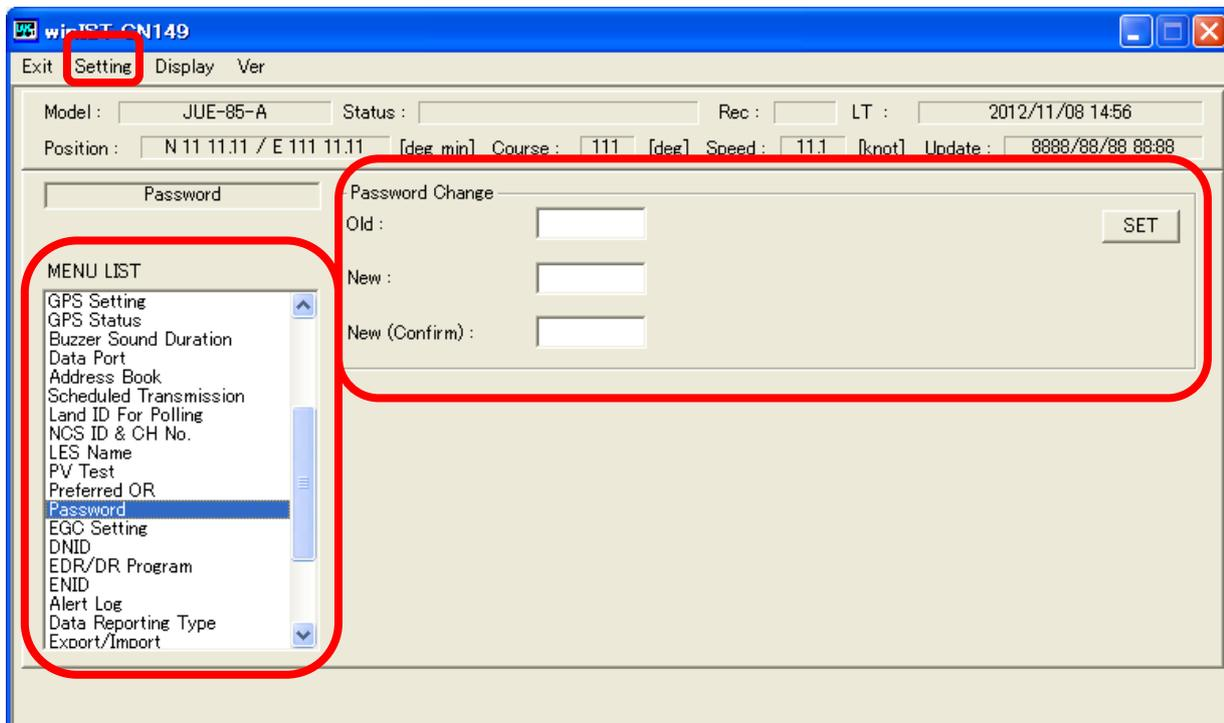

Fig. 4-24a [Password] screen
2. Operation except [Exit], [Display], and/or [Ver] is not possible while winIST is communicating with INMARSAT terminal (the function in the frame of **Fig. 4-24a [SSAS Password] screen** cannot be operated).